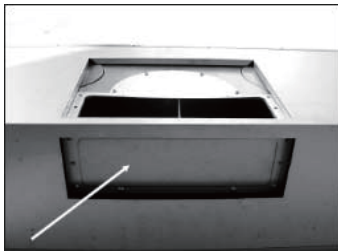

Fig.4d
f. Remove the screws holding the rear outlet panel. **(Fig. 4d-e)**